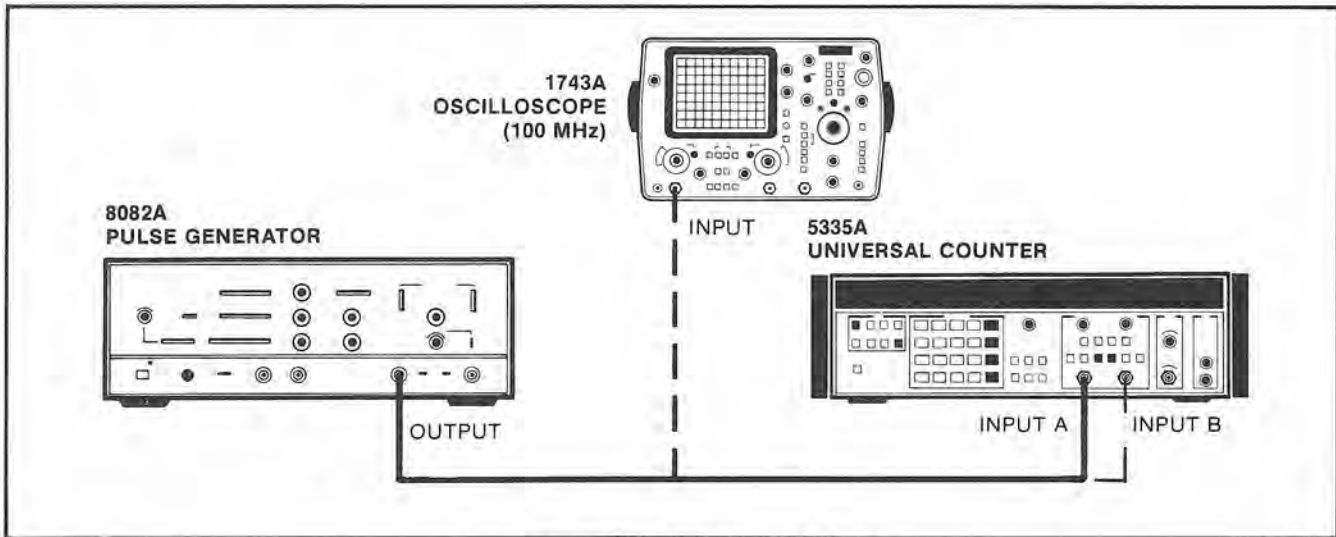

Figure 4-15. Rise and Fall Time A Test Setup
- a. Connect the 8082A Pulse Generator to the 5335A INPUT A as shown in Figure 4-15.